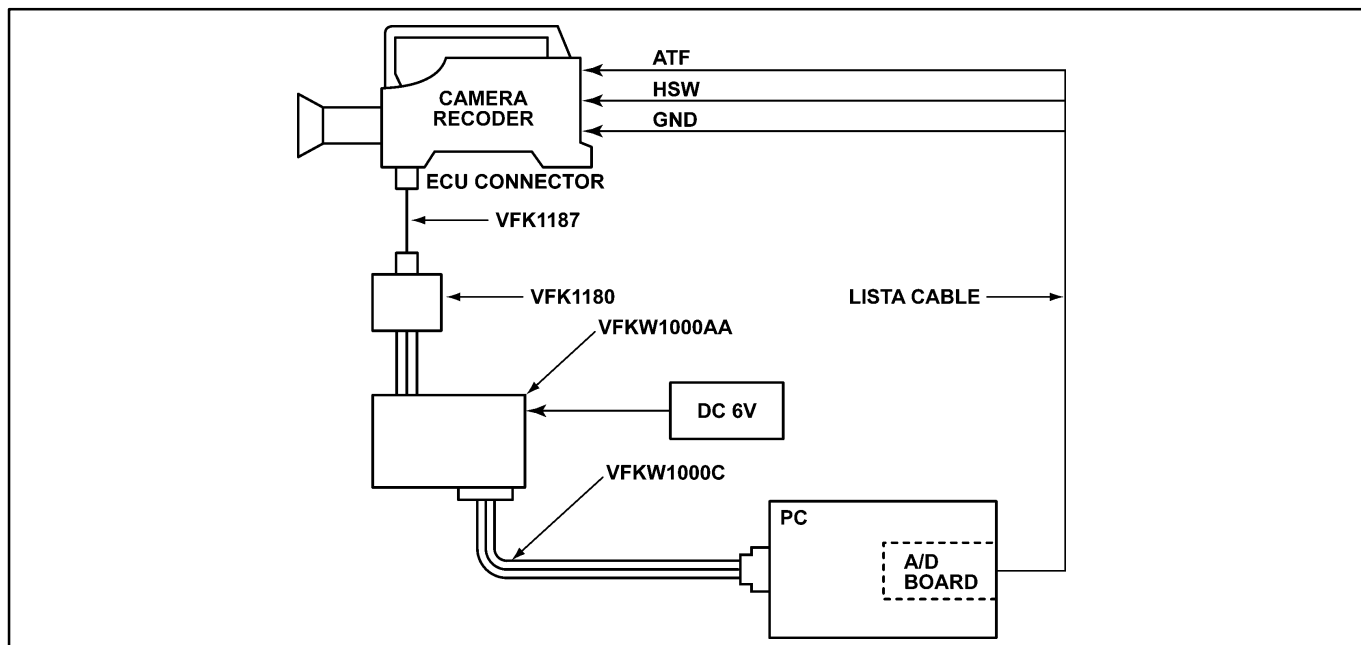

Figure 3-30
3. Connect the EVR tool as shown in figure 3-30 about type B models on the above table.